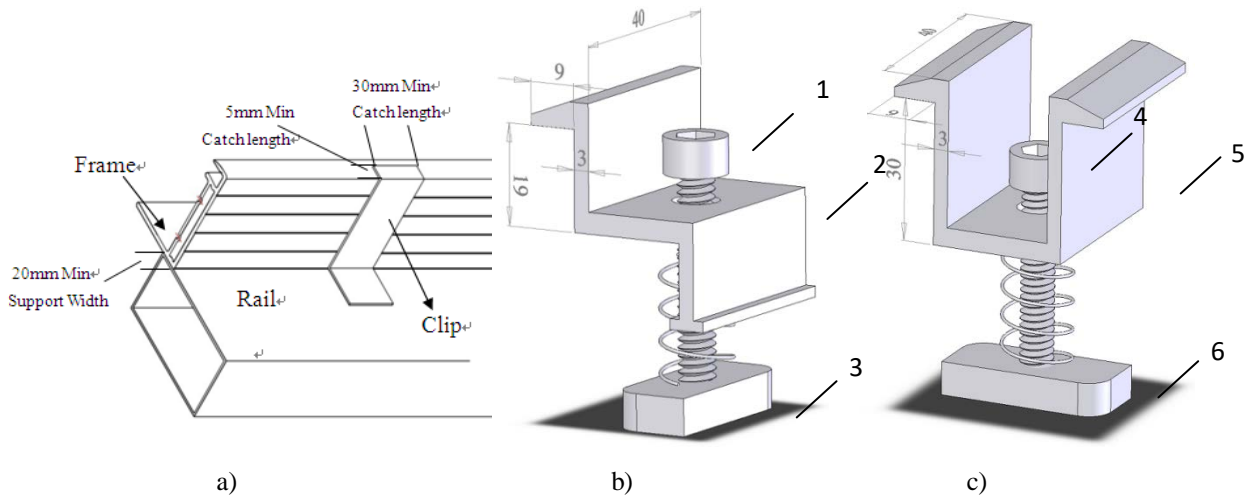

Figures 6: $237\text{mm} < s < 287\text{mm}$
2) Long Edge Perpendicular to Array Rails (Figure 6):
The modules may also be mounted using clips on the long sides of the module when the array rails are perpendicular to the long sides, as shown in Figure 6. The clip centerlines must be between 237mm and 287 mm from the ends of the module. Note that the mounting clips should meet the minimum dimensions (catch width of 5mm and length of 30mm) shown in Figure 4 a). The array rails must support the bottom of the modules and must be continuous pieces (no breaks in the rail)